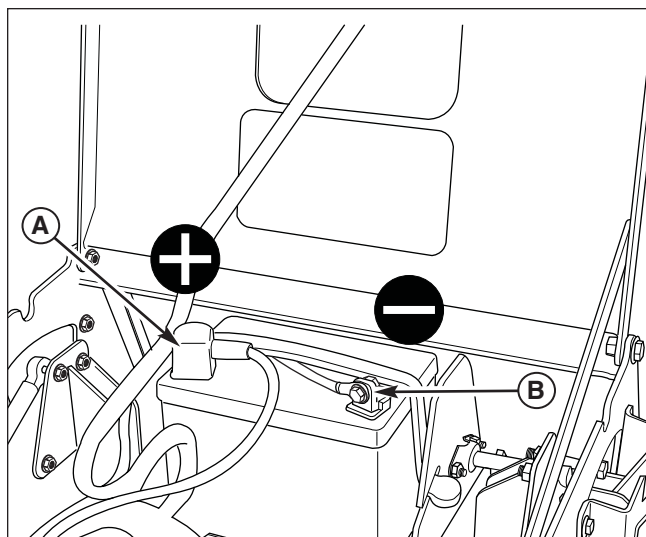

Figure 47. Battery Compartment
1. Disconnect the cables from the battery, negative (black) cable first (B, Figure 47).
3. Reinstall the battery and reattach the battery cables, positive (red) cable first (A).